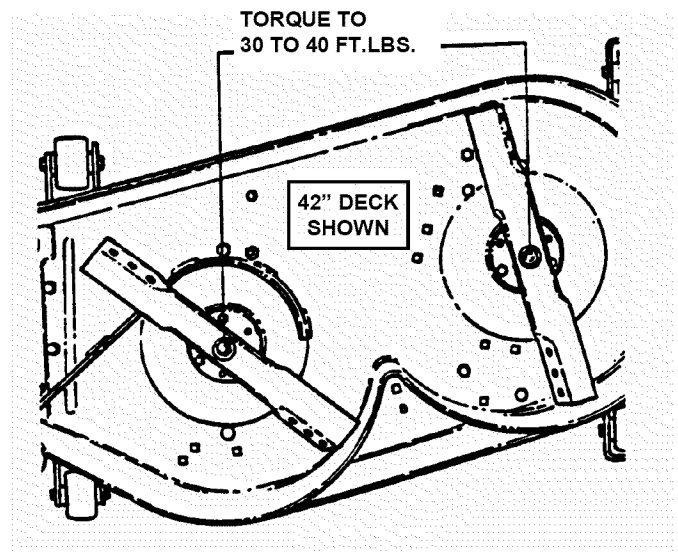

FIGURE 3.2
5. Check torque of blade mounting bolts. Torque to: 42" deck - 30 to 40 ft lbs. See Figure 3.2.